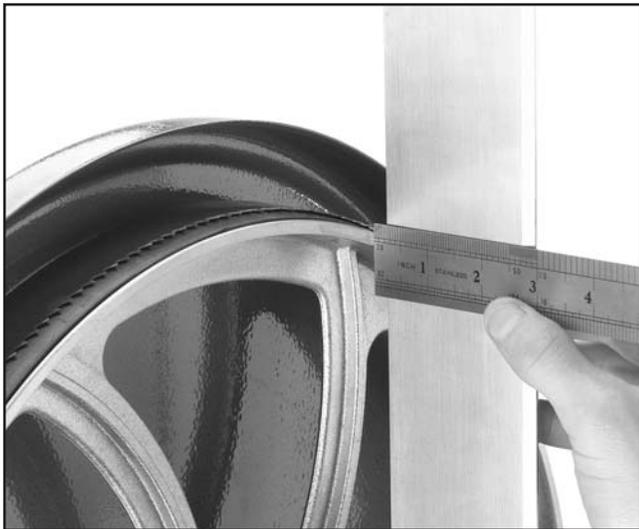

Figure 38. Measuring wheel difference.
1. Adjust the tracking knob so the top wheel is parallel with the bottom wheel. With the straightedge touching both points of the wheel that does not need to be adjusted, measure the distance away from the incorrect wheel with a fine ruler. See **Figure 38**. The distance you measured with the ruler is the distance the wheel must be corrected.